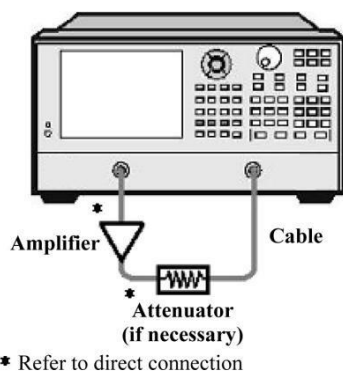

Fig. 8.23 Connection in Small Signal Gain and Flatness Measurement
- 5) Connect the amplifier as shown in Fig. 8.23 and provide the DC bias.